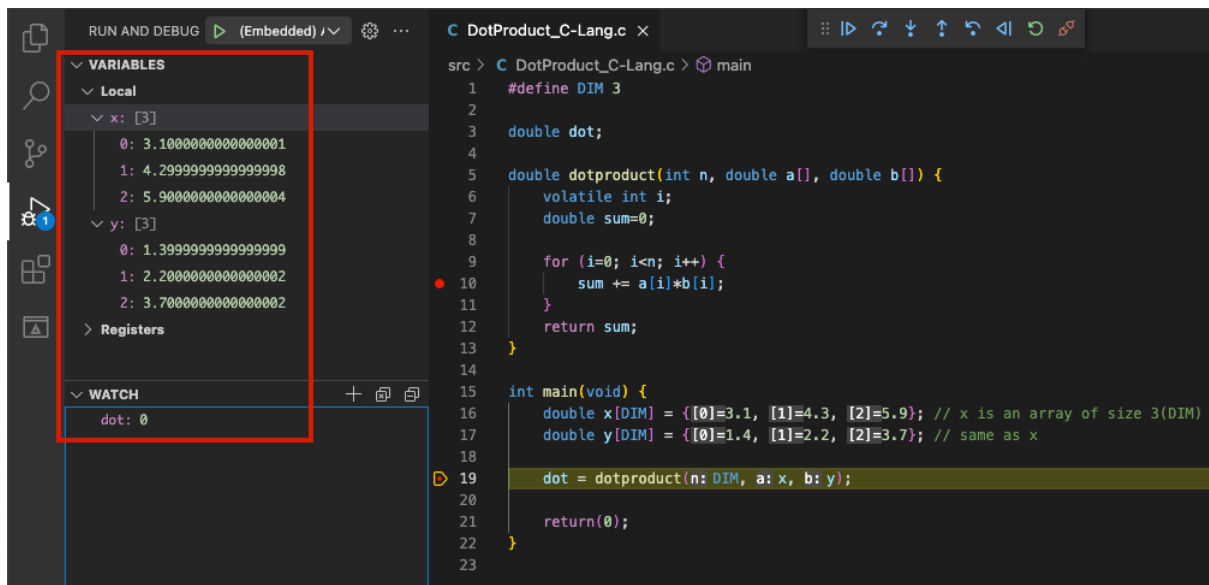

Figure 64. DotProduct_C-Lang program: values of the variables at the first breakpoint
5. Before calling the debugger, set a breakpoint at line 10 and another one at line 19 (see Figure 64).
6. Then, start debugging. The program will start executing; stop it at the first breakpoint (see Figure 64).
7. On the Debugger sidebar, expand the values of *x* and *y* in the VARIABLES section (see Figure 64). The two vectors contain the initial values assigned in *main*. Add *dot* to the WATCH section. The *dot* variable is initialized to 0.